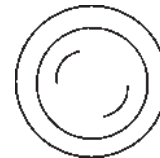

Figure 39. Pre-Heat Lamp
3. Depending on the temperature of the coolant (cold weather conditions), the pre-heat lamp (Figure 39) will light (ON) and remain on until the pre-heating cycle has been completed. After completion of the pre-heating cycle, the light will go OFF and the engine will start up automatically.